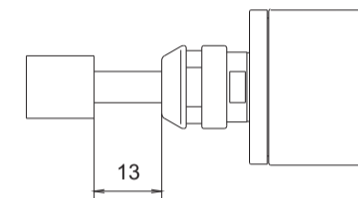

Fig. 16
- Do not exceed 13mm of overhang for mounted grindstones as shown in Fig. 16. If the overhang must exceed 13mm, reduce the motor speed in accordance with Table 2.